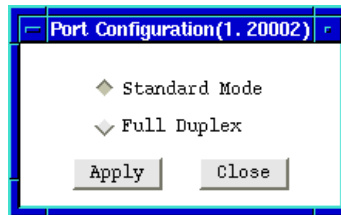

Figure 2-16. Port Configuration
3. Drag down to **Configuration**, and release. The Port Configuration window, Figure 2-16, will appear.